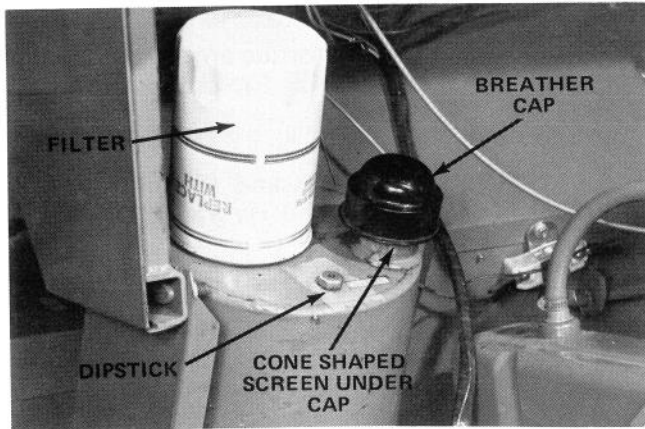

Figure 56
3. Free the dipstick with a 9/16" wrench and check oil level (Fig. 56).